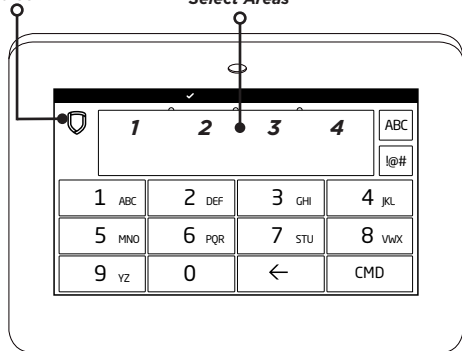

Figure 2: Number Pad
3. Identify the **Select Area** for the character and press that select area on the keypad. Press that select area again for the lowercase letter. See Figure 2.